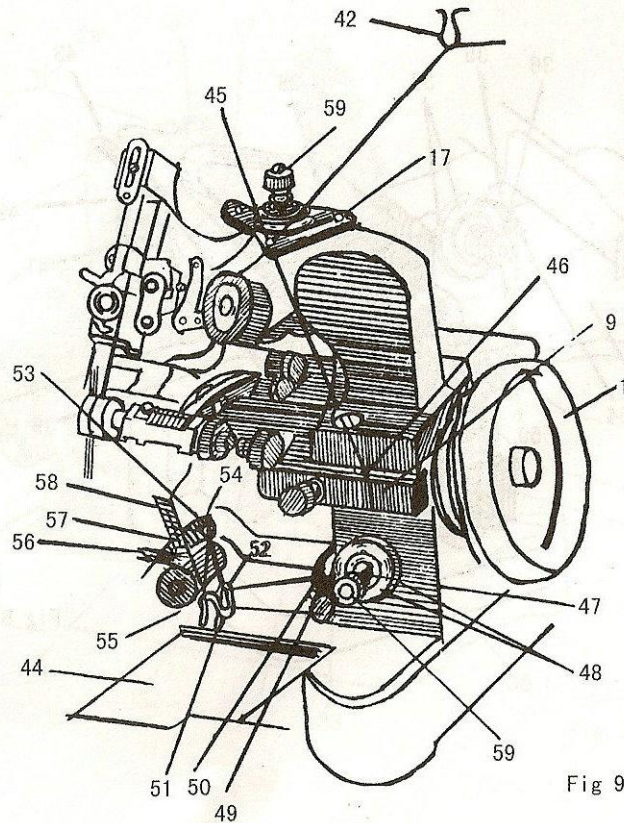

Fig 9
Pull down the right side cover (44). Turn the balance wheel clockwise until the needle bar rises to its highest position, and place the bobbin on the spool pin. Then thread in order as indicated with arrows. (see Fig.9)